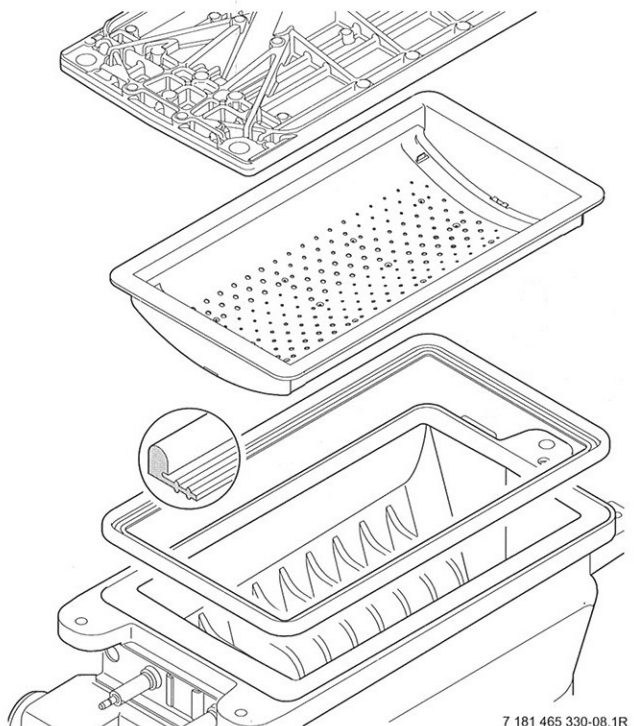

Fig. 51
- ▶ Remove the burner skin and clean components. Do not use a wire brush. Refer to fig. 51.